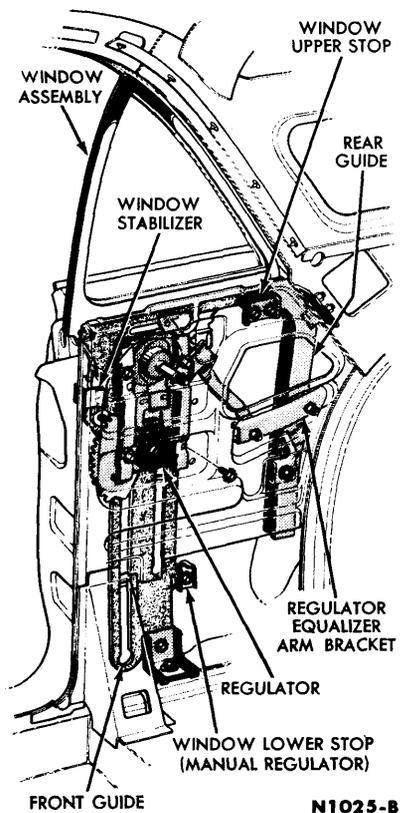

FIG. 10—Quarter Window
2. Remove the quarter window upper stop retaining bolts, and remove the stop (Fig. 10).